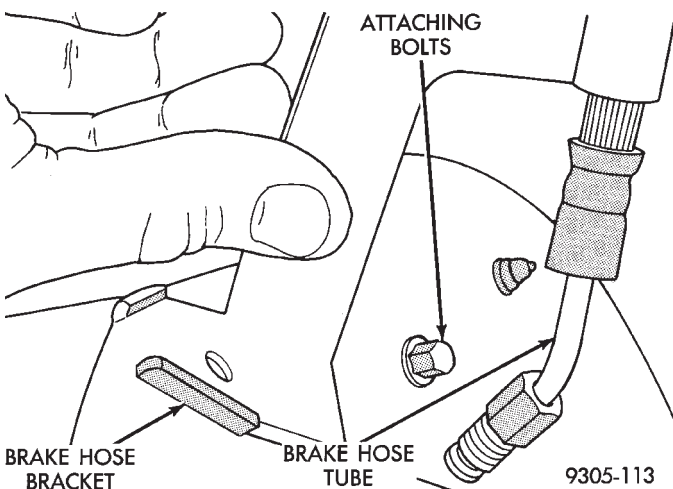
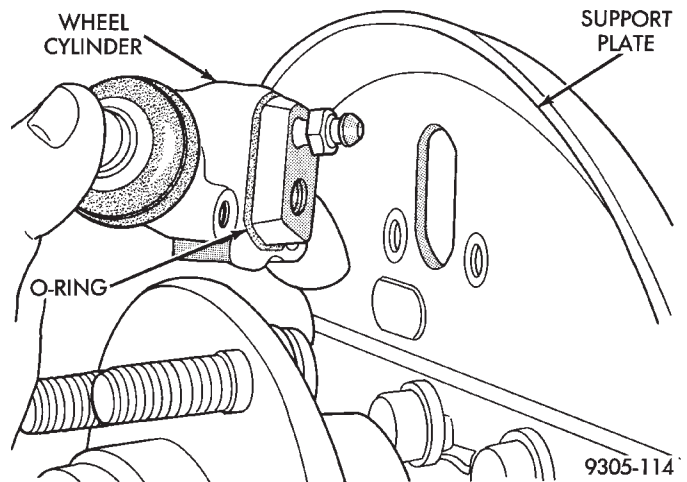

Fig. 82 Brake Hose Bracket And Tube
Fig. 83 Remove or Install Wheel Cylinder
(6) Remove brake hose bracket from rear brake support plate (Fig. 82).
(7) Disconnect brake hose tube from wheel cylinder (Fig. 82).
(8) Remove rear wheel cylinder attaching bolts (Fig. 82).
(9) Pull wheel cylinder assembly off brake support plate (Fig. 83).
(1) Install O-Ring on wheel cylinder as shown in (Fig. 83).
(2) Install wheel cylinder onto brake support plate. Tighten the wheel cylinder to brake support plate attaching bolts to 8 N·m (75 in. lbs.).
(3) Hand start hydraulic brake hose tube fitting to wheel cylinder. Attach brake hose bracket to support plate (Fig. 82). Tighten tube to wheel cylinder fitting to a torque of 17 N·m (145 in. lbs.).
(4) Install the rear brake shoes on the brake support plate. Refer to Rear Brake Shoes in the Removal And Installation Section in this group of the service manual for the proper brake shoe installation procedure.
(5) Install rear hub and bearing assembly on rear spindle. Install hub and bearing assembly washer and retaining nut. Tighten the hub and bearing assembly retaining nut to a torque of 168 N·m (124 ft. lbs.). Install the wave washer, nut retainer and a new cotter pin on rear spindle. Install the dust cap on the hub/bearing.
(6) Adjust brake shoes assemblies so as not to interfere with brake drum installation.
(7) Install the rear brake drum on the hub.
(8) Bleed the entire brake system. See (Bleeding Brake System) in Service Adjustments section in this group of the service manual.
(9) Install the wheel and tire assembly. Tighten the wheel mounting stud nuts in proper sequence until all nuts are torqued to half specification. Then repeat the tightening sequence to the full specified torque of 129 N·m (95 ft. lbs.).